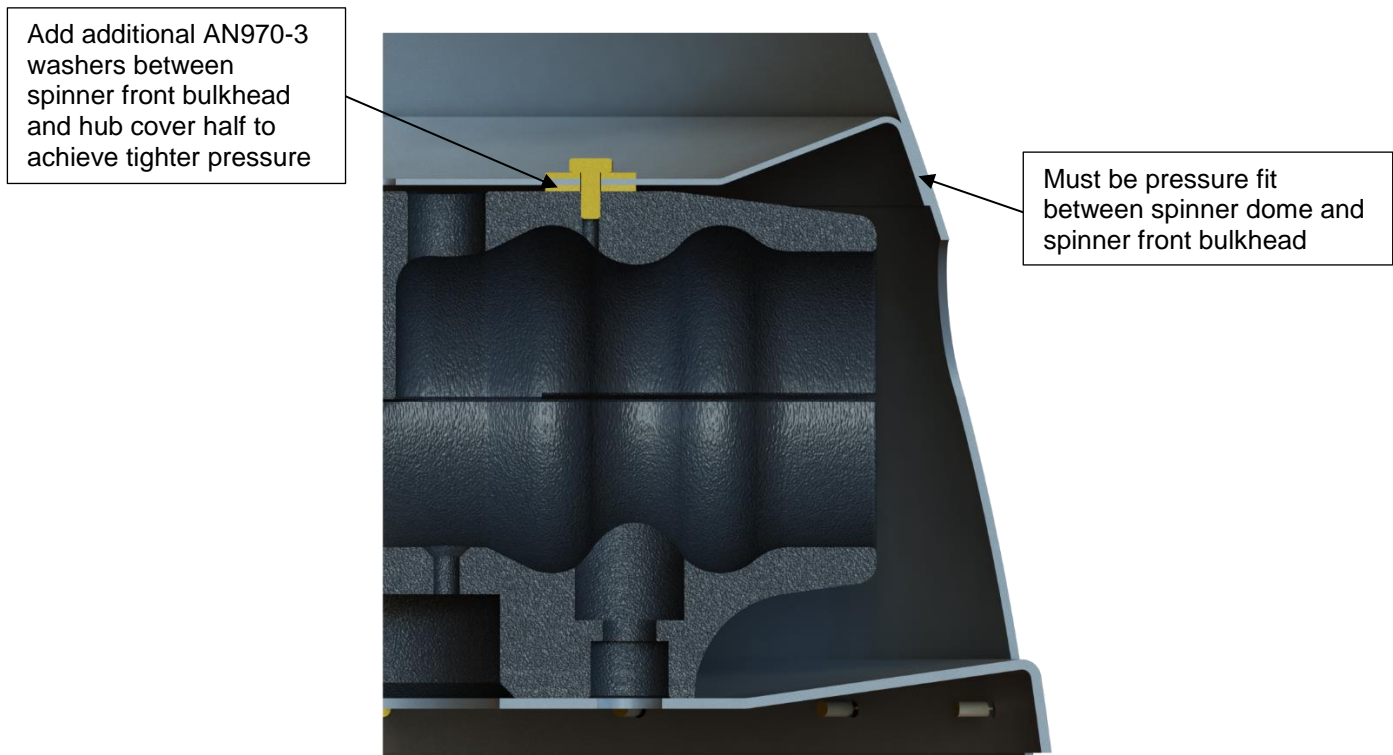

Figure 2: Front Spinner Bulkhead Washer Section View
3. Slide spinner dome over the spinner front bulkhead (if applicable) and rear spinner bulkhead. A small amount of force should be required to press the spinner dome all the way down onto the rear spinner bulkhead to line up the bolt holes. If the Spinner dome drops into place without having to apply a small amount of force, the spinner front bulkhead does not have a tight enough press fit inside the spinner dome; repeat step 2 but apply two more washers between the hub cover half and spinner front bulkhead, see **Figure 2**.